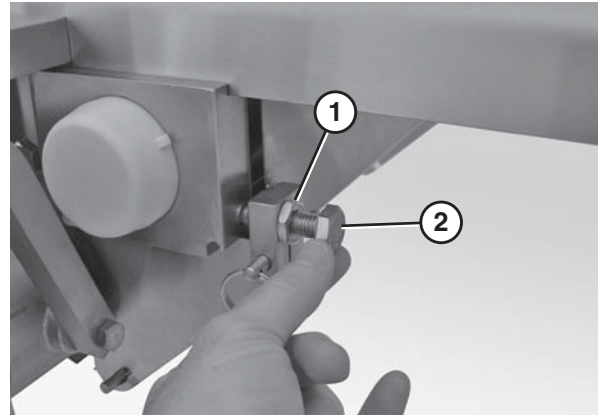

**Figure 54**
Tracking of belt through the center drive is done by adjusting the position of the infeed roller (Figure 54, item 1) on the center drive assembly.